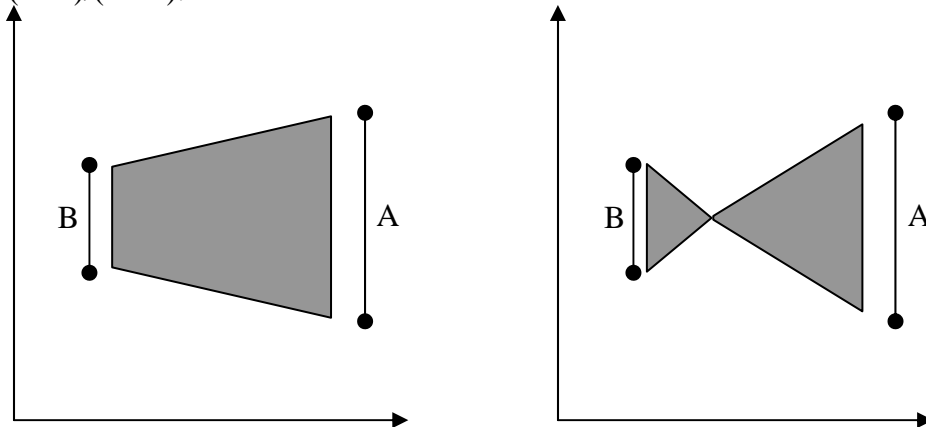

Figure 1: Different Modulation Indices of AM
10. Try a variety of different DC offset values on the message signal. For each, calculate the modulation index  $\mu$  using the formula in the text. To measure  $\mu$ , place the oscilloscope in XY mode, so the screen looks something like Figure 1.